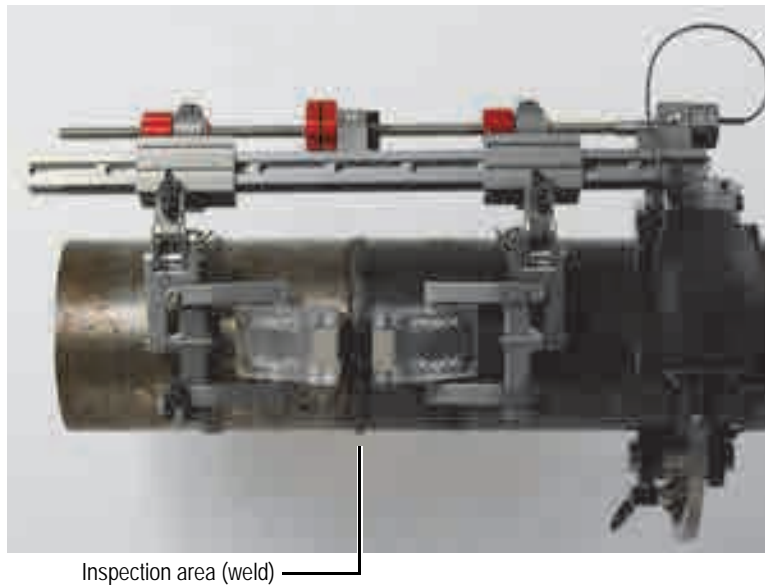

Figure 4-1 Center the inspection area between the probes
2. Center the inspection area between the probes (see “To move the probe holders together” on page 32 and Figure 4-1 on page 53).